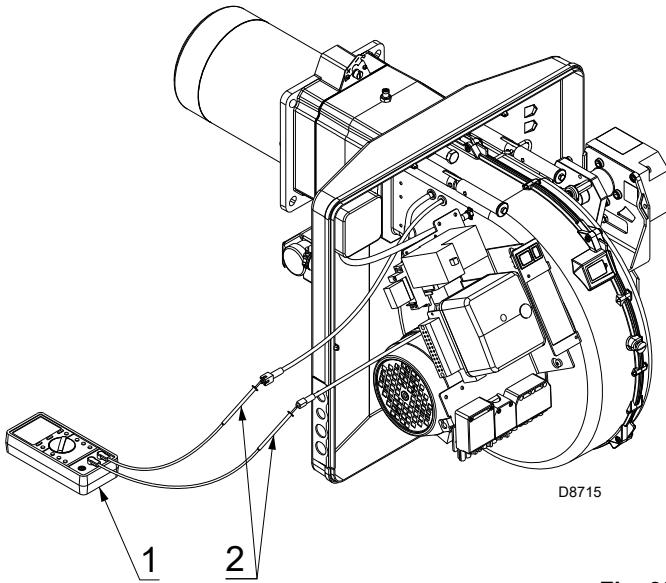

Fig. 35
However, if it is necessary to measure the ionisation current, disconnect the plug-socket (2)(Fig. 35) on the ionisation probe cable and insert a direct current microammeter (1)(Fig. 35) with a base scale of  $100 \mu\text{A}$ .